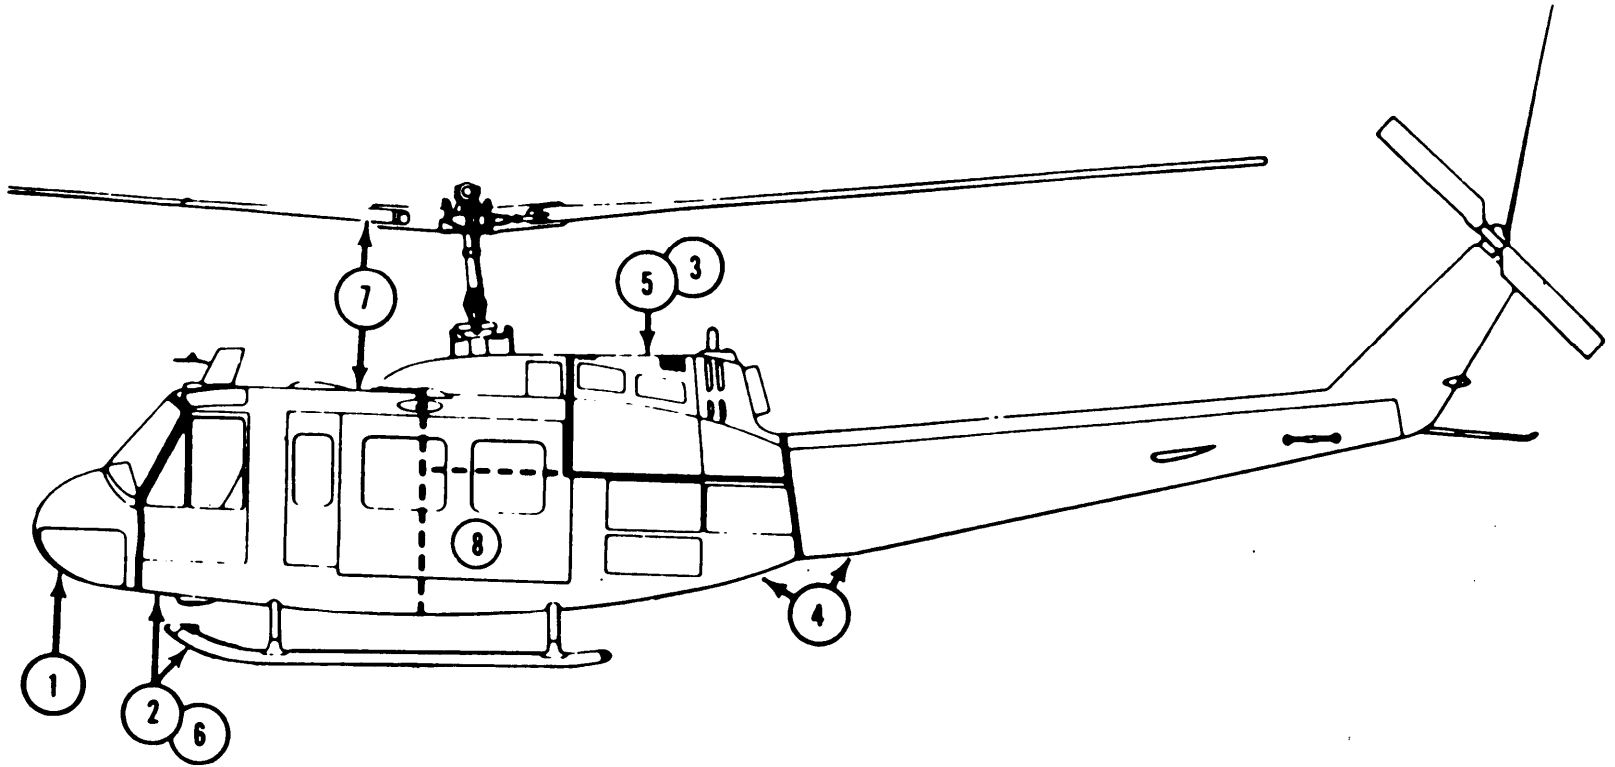

Figure 1. Inspection areas
6. Inspection. Areas Inspection areas are shown in Figure 1.